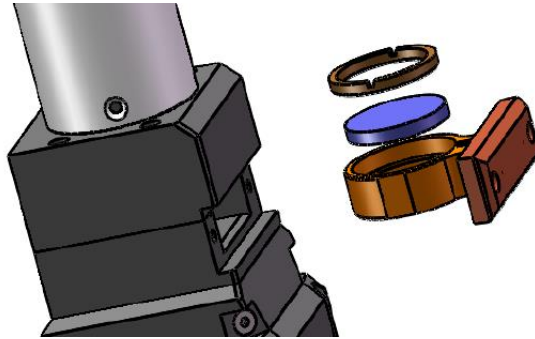

Figure 11. Protective windows of collimate lens.
- (1) Loose the two screws showed in figure 11, and carefully take out of the lens with cover slide drawer;
- (2) Take out of the **screw ring** (figure 11) by tools properly and take out of the lens using your fingers after putting on fingerstall;
- (3) Cleaning the lens, cover slide drawer and screw ring;
- (4) Put the cleaned lens back into the cover slide drawer; (No difference in pros and cons)
- (5) Put **screw ring** back into the cover slide drawer;
- (6) Put the protective windows unit back into the cutting head and then tighten the two screws.